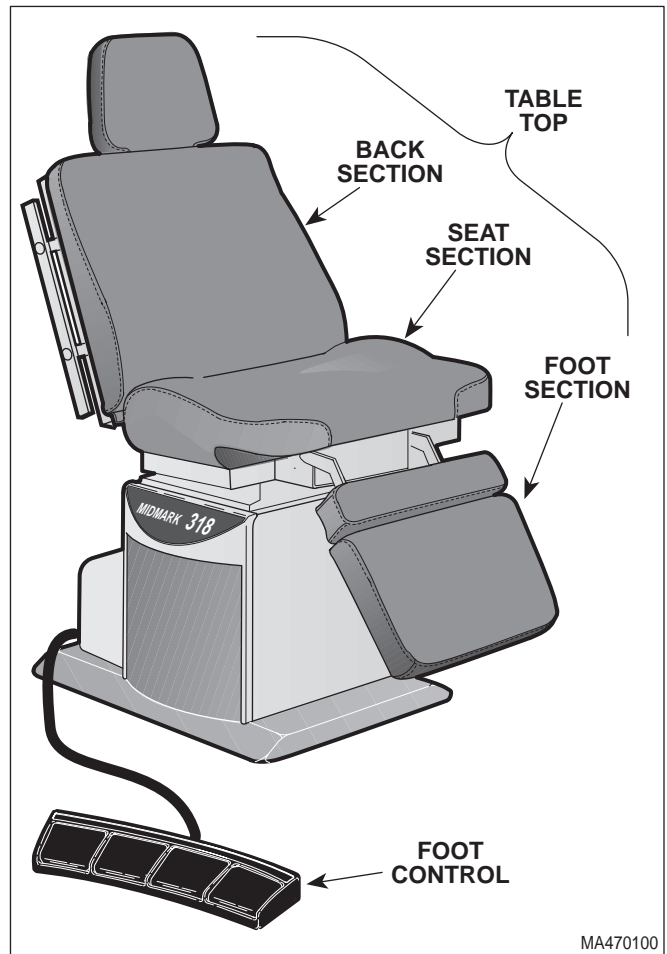

Figure 2-1. Operational Test
2.1 Operational Test (See Figure 2-1)
- (1) Plug the table into a grounded, non-isolated, correctly polarized outlet that has the proper voltage output for the table. See Figure 2-1.
- (2) Depress TABLE UP, TABLE DOWN, BACK UP, BACK DOWN, TILT UP, TILT DOWN, FOOT UP, and FOOT DOWN pedals on foot control.
- (3) Observe. The table top should move in the direction corresponding to the pedal which is being depressed. Movement should be steady and should not be too slow or too fast.